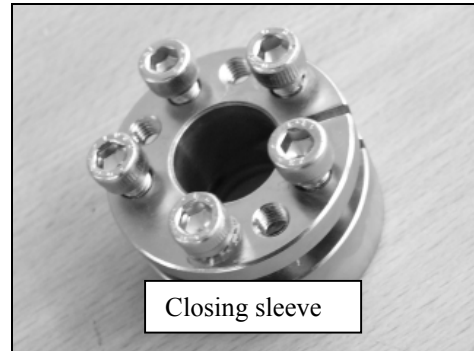

Fig. 102
- Lubricate the conical surface of the sleeve and screws (even under the screw head) (Fig. 102)